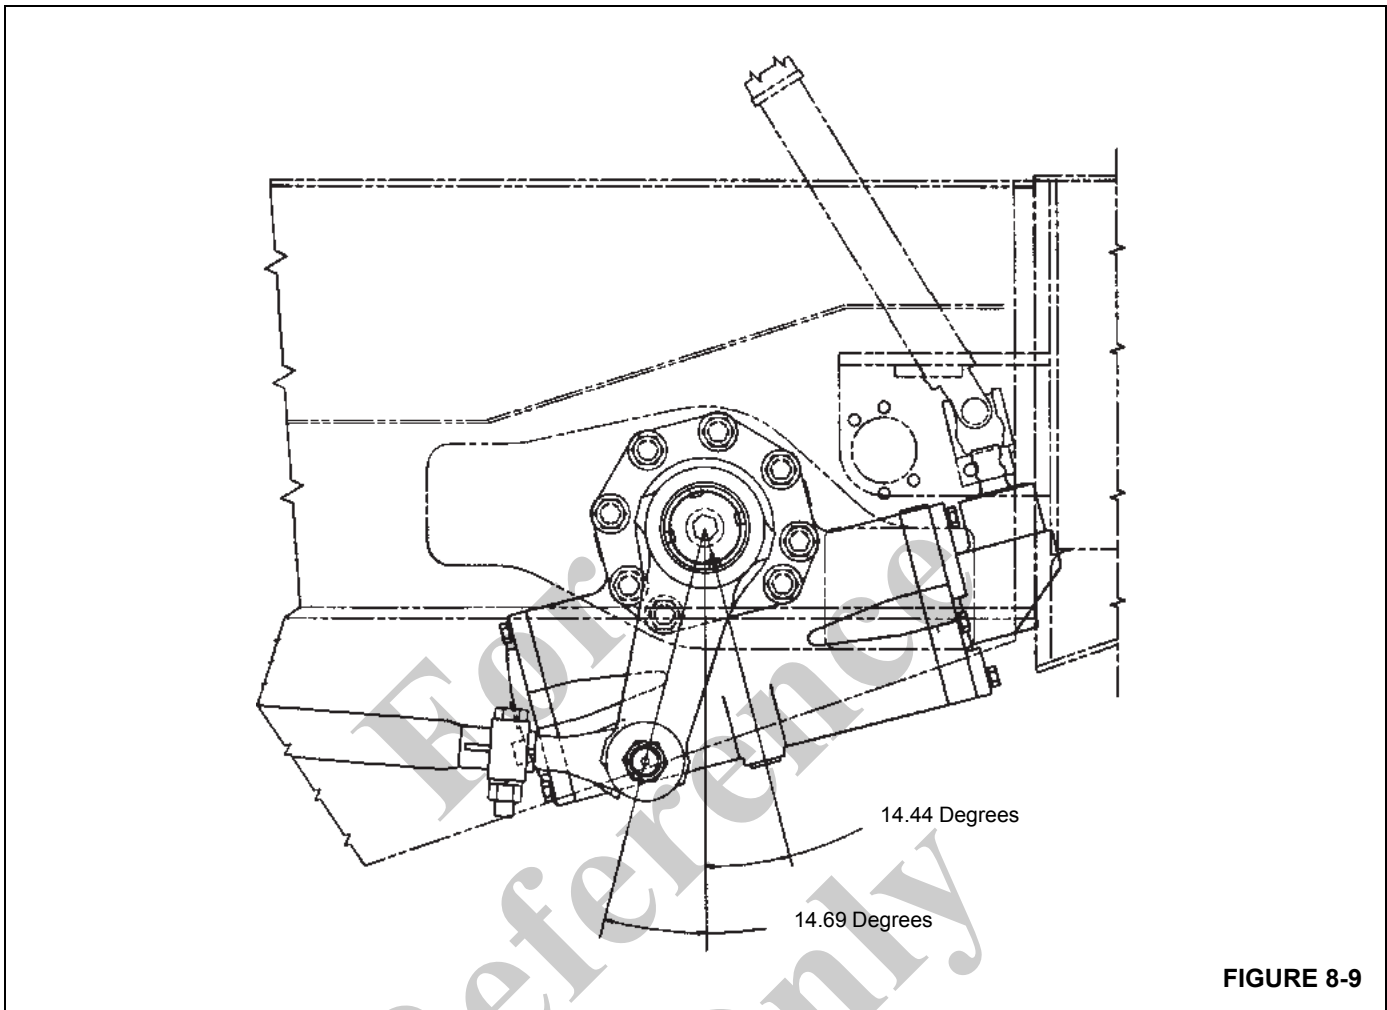

FIGURE 8-9
**NOTE:** The pitman arm must be at the angle shown in Figure 8-9. If the position varies more than 2 degrees, double check the center of travel and timing mark alignment.